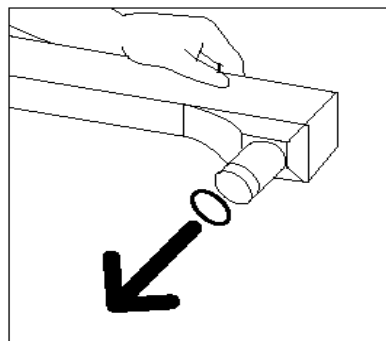

Figure 39: Removing the Fuser Oil Cartridge Cap
- 9** Remove the cap at the end of the Fuser Oil Cartridge, as illustrated in Figure 39.